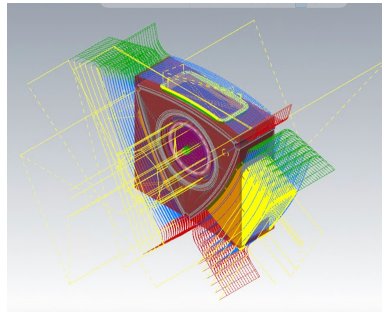

Fig 3.
- From here, I could use different milling tool options to cut the specific shapes of the rotor. The directions and commands can be seen through the different colors in **Fig 3**.